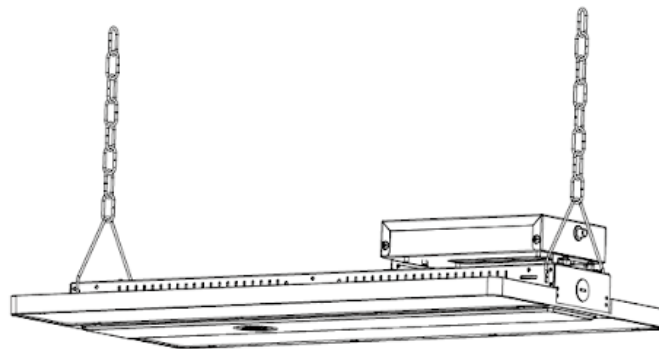

Fig. 7
10. Once the connection is complete, reinstall the driver compartment. Press the test button on the side of the junction box and make sure that the luminaire goes into emergency mode. Please note that the emergency battery backup kit can only be used when the luminaire is suspended (Fig. 7).